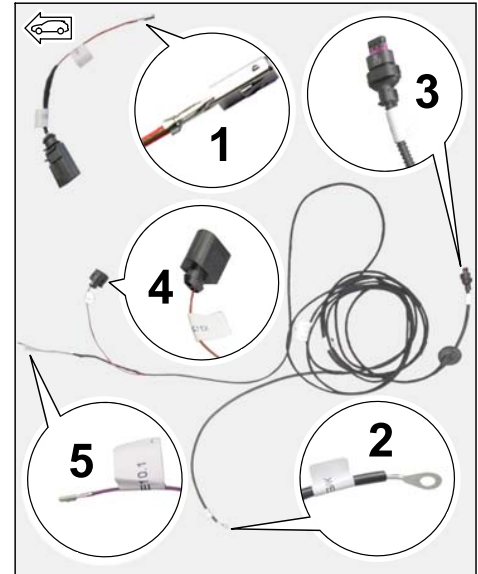

Figure 36
– Wire harness connections (\Rightarrow Figure 36):